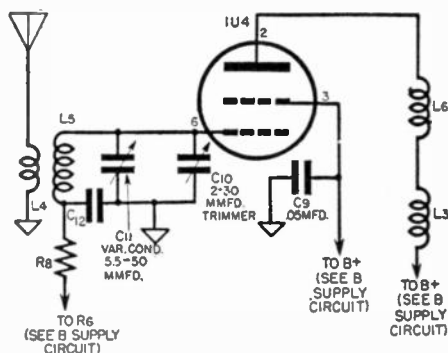

Fig. 8-20. R. F. amplifier.
e) *R.F. Amplifier Circuit.* See Figure 8-20.